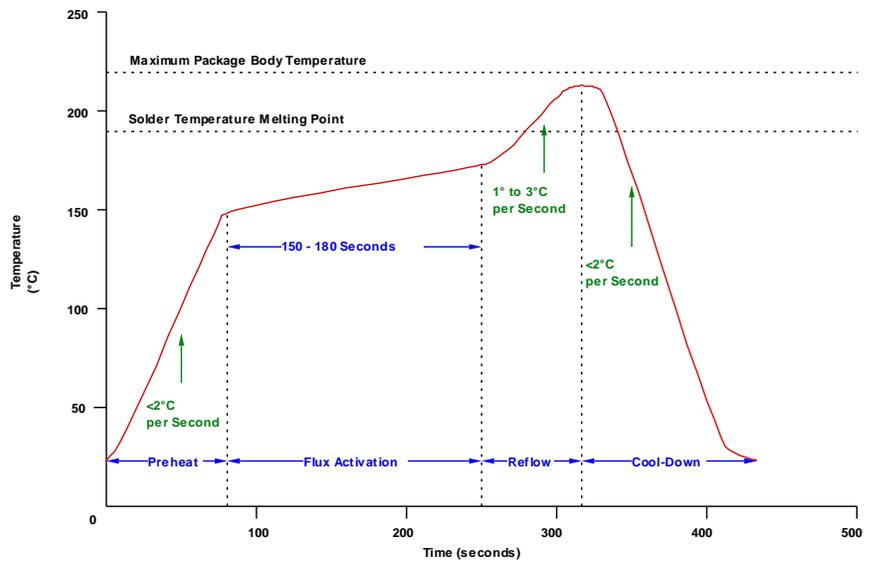

Figure 11: Recommended Reflow Profile – non RoHS
- (1) Using a flux dispenser, place a small amount of flux (water soluble or no clean) on the middle of the target PCB lands. Spread the flux evenly over the PCB lands.
- (2) Apply a small amount of TAC flux on opposite corners of the PCB lands.
- (3) Note the target board land pattern orientation and the SM adaptor Pin 1 location. Place the adaptor (solder ball side down) onto the flux and land pattern (align as closely as possible to the land pattern of the target PCB). The SM adaptors are durable enough to be handled by hand, however vacuum pen or pick & place equipment can be used for handling the part.
(4) Surface tension between the adaptor's solder spheres and the target PCB's pads will self-align the part during the reflow process.
(5) Reflow as per (Figure 11):